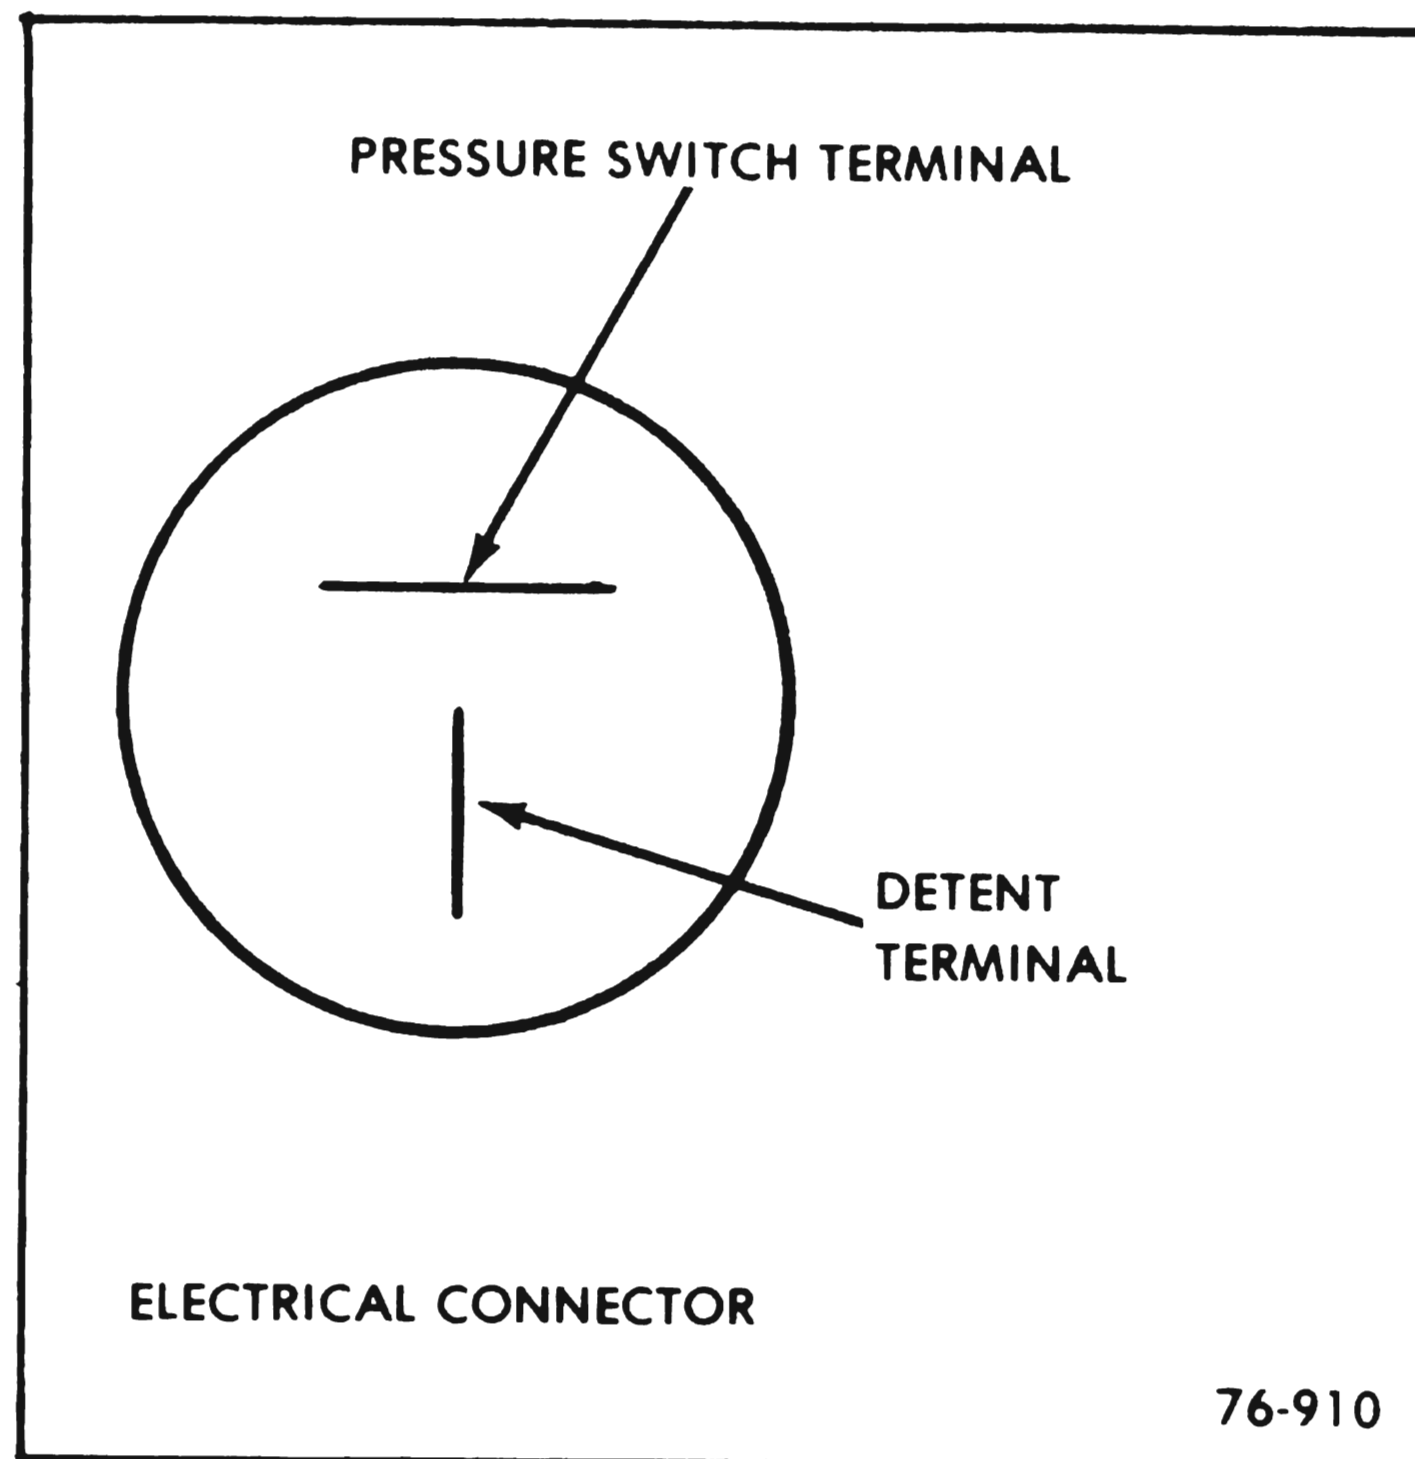

Figure 76-6
1. Disconnect electrical wire harness from transmission electrical connector. If using a continuity tester which has a self-contained power source, connect one tester lead to pressure switch terminal of transmission connector (See Figure 76-6), and connect other lead to ground. Tester should show current flowing through the switch (switch closed).